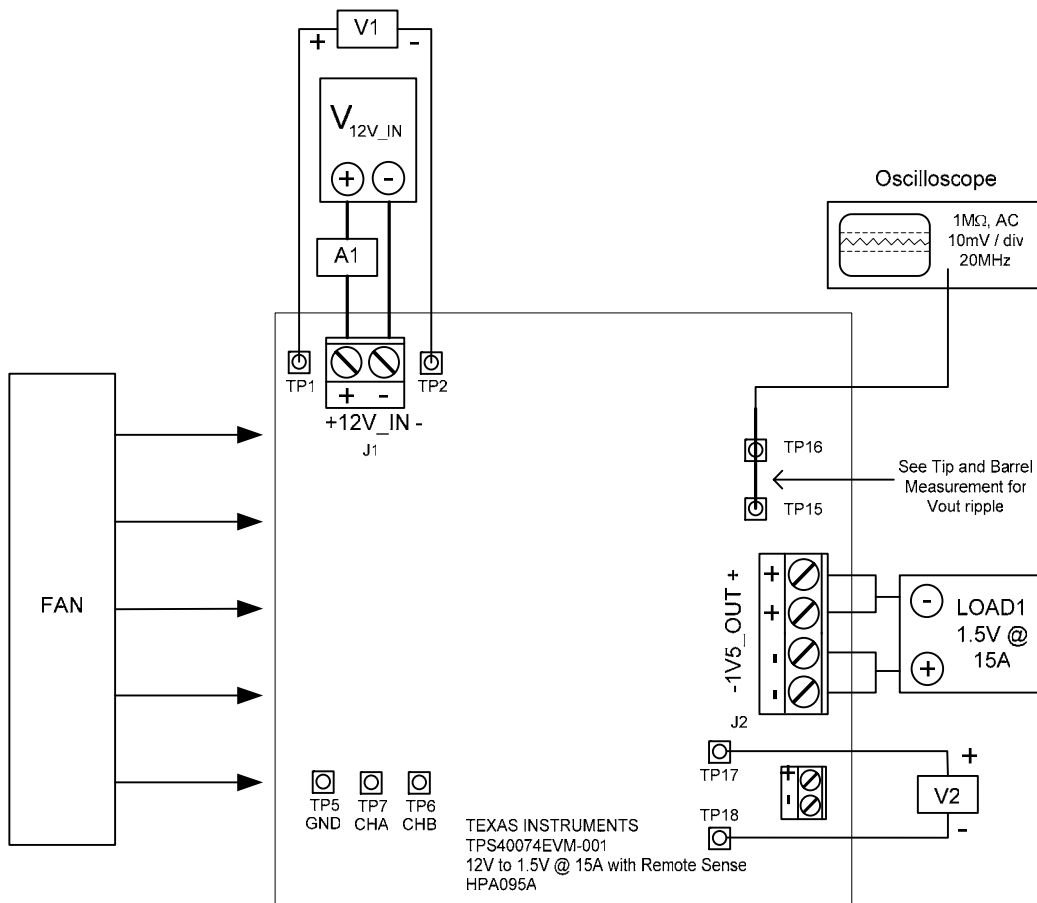
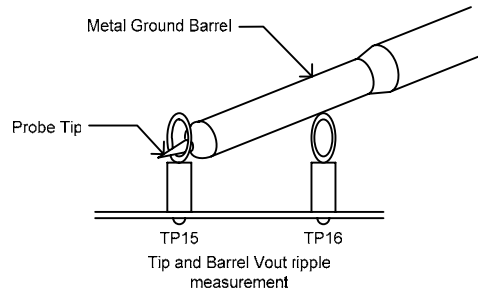

Figure 2: TPS40074EVM-001 Recommended Test Set-Up
Figure 3: Output Ripple Measurement - Tip & Barrel using TP15 and TP16
The input voltage source (V_{12V_IN}) should be a 0-15V variable DC source capable of 5Adc. Connect V_{12V_IN} to J1 as shown in Figure 3.
A 60MHz or faster Oscilloscope can be used to determine the ripple voltage on 1V5_OUT. The Oscilloscope should be set for 1M Ω impedance, AC coupling, 1 μ s/division horizontal resolution, 20mV/division vertical resolution for taking output ripple measurements. TP 15 and TP 16 can be used to measure the output ripple voltage by placing the oscilloscope probe tip through TP 15 and holding the ground barrel to TP 16 as shown in Figure 3. For a hands free approach, the loop in TP 16 can be cut and opened to cradle the probe barrel. Using a leaded ground connection may induce additional noise due to the large ground loop area.
Shown in Figure 3 is the basic test set up recommended to evaluate the TPS40074EVM-001. Please note that although the return for J1 and J2 are the same, the connections should remain separate as shown in Figure 2.
2. Prior to connecting the DC input source, V_{12V_IN} , it is advisable to limit the source current from V_{12V_IN} to 5.0A maximum. Make sure V_{12V_IN} is initially set to 0V and connected as shown in Figure 2.
3. Connect the ammeter A1 (0-5A range) between V_{12V_IN} and J1 as shown in Figure 2.
4. Connect voltmeter V1 to TP1 and TP2 as shown in Figure 2.
6. Connect voltmeter, V2 across TP17 and TP18 as shown in Figure 2.
7. Connect Oscilloscope probe to TP16 and TP15 as shown in Figure 3.
8. Place Fan as shown in Figure 2 and turn on, making sure air is flowing across the EVM.
Table 3 lists the EVM components as configured according to the schematic shown in Figure 1 and Figure 2.